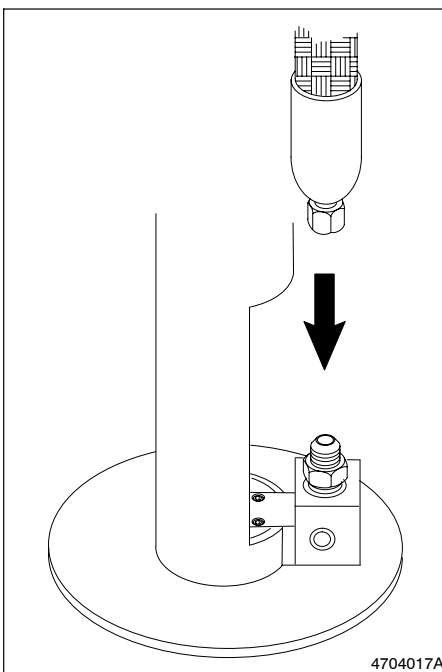

Fig. 7-36 Installing the Hose on the Manifold
5. See Figure 7-36. Reinstall the hose(s) onto the connector(s) at the pump manifold.